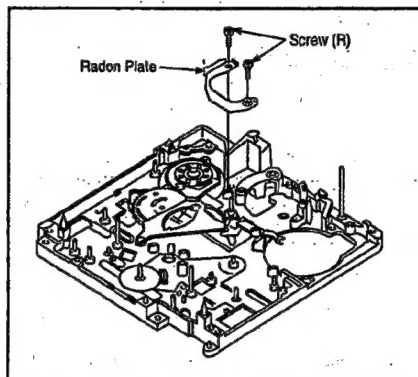

Fig. M25
- Fig. M25 Remove 2 screws (P) and Cylinder Base Unit with S and T Boat Units. Then remove S and T Boat Units from the Cylinder Base Unit.